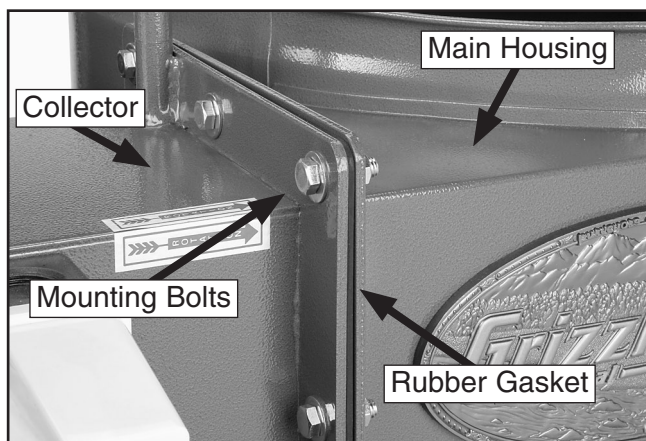

Figure 9. Collector mounted to main housing.
9. Position and hold the rubber gasket against the square opening in the main housing (see **Figure 9**).